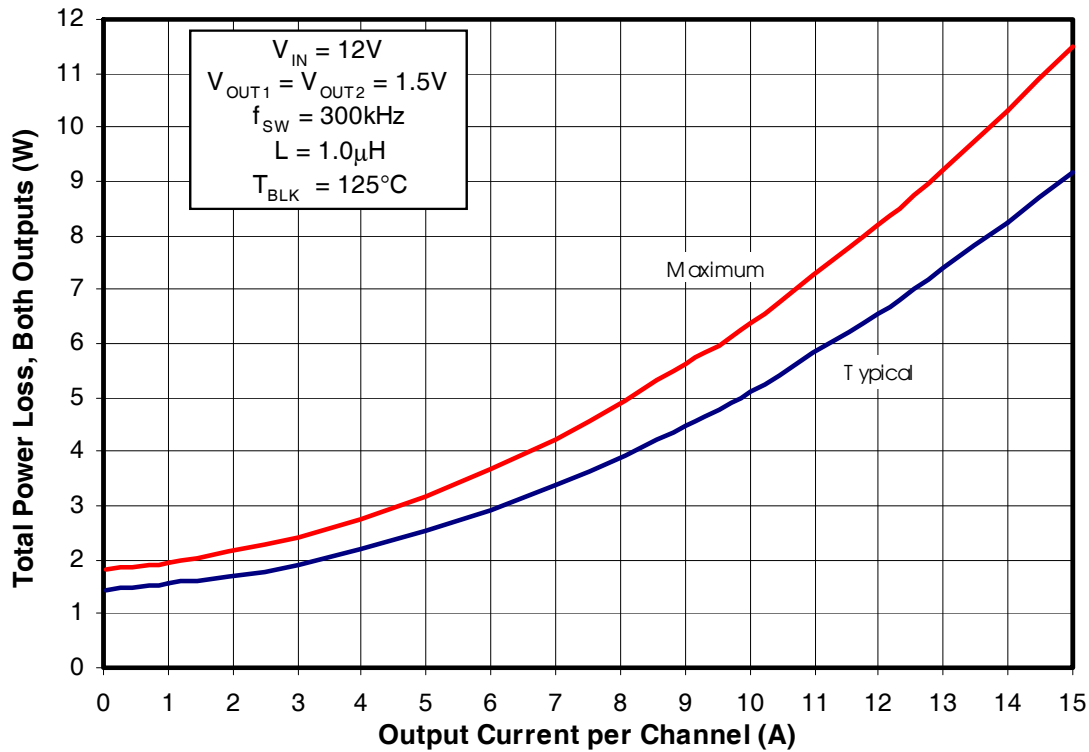
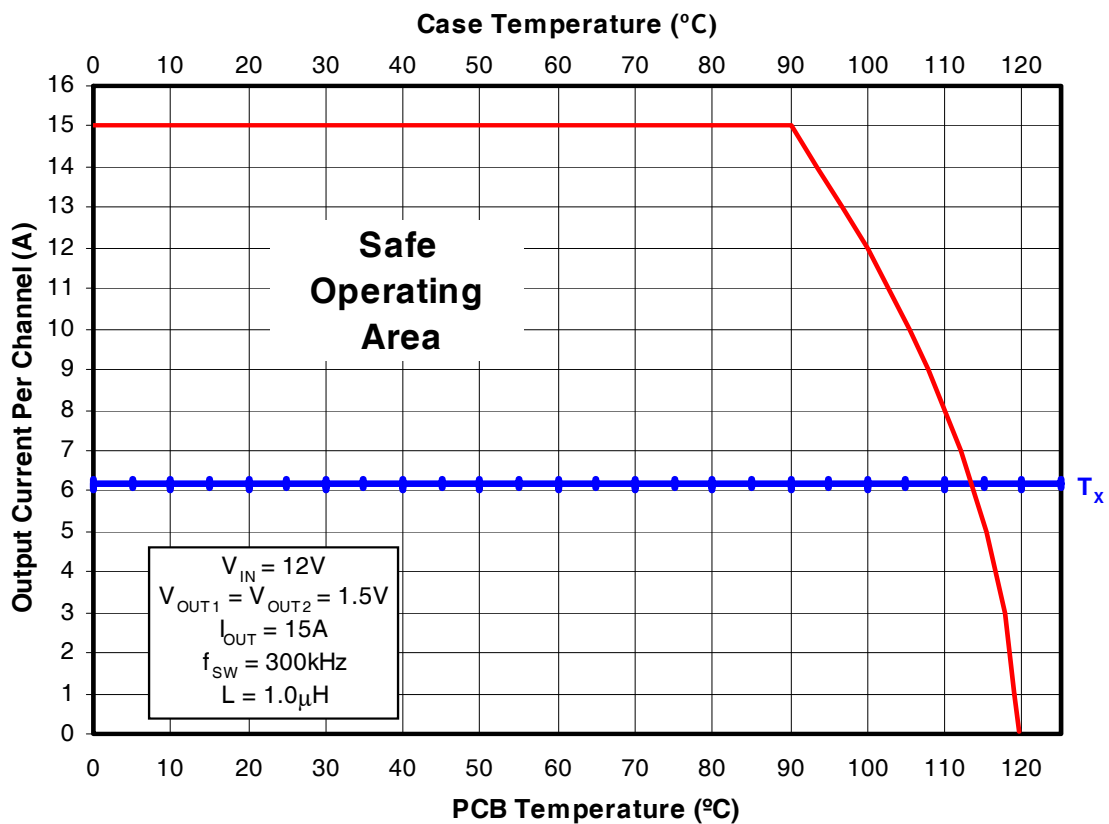
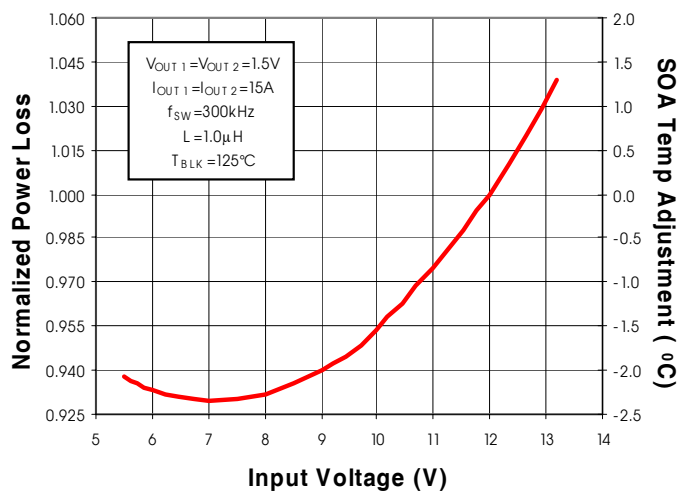

Fig. 2: Power Loss vs. Current
Fig. 3: Safe Operating Area (SOA) vs. T_{PCB} & T_{CASE}
Fig. 4: Normalized Power Loss vs. V_{IN}
To make adjustments to the power loss curves in Fig. 2, multiply the normalized value obtained from the curves in Figs. 4, 5, 6 or 7 by the value indicated on the power loss curve in Fig. 2. Remember that the power loss in Fig. 2. is the power loss for 2 outputs operating with the same output voltage. If differing output voltages are used the initial power loss for each channel needs to be divided by 2. Then if multiple adjustments are required, multiply all of the normalized values together, then multiply that product by the value indicated on the power loss curve in Fig. 2. The resulting product is the final power loss based on all factors. See example no. 1.
To make adjustments to the SOA curve in Fig. 3, determine your maximum PCB Temp & Case Temp at the maximum operating current of each iP1202PbF. Then, add the correction temperature from the normalized curves in Figs. 4, 5, 6 or 7 to the T_x axis intercept (see procedure no. 2 above) in Fig. 3. When multiple adjustments are required, add all of the temperatures together, then add the sum to the T_x axis intercept in Fig. 3. See example no. 2.
- Output1 (Fig. 2) Maximum power loss = $W 8.25/2 = 4.125W$
(Fig. 4) Normalized power loss for input voltage ≈ 0.93
- Output2 (Fig. 2) Maximum power loss = $6.4W / 2 = 3.2W$
- Output1 (Fig. 4) Normalized SOA Temperature for input voltage $\approx -2.3^{\circ}\text{C}$
- Output2 (Fig. 4) Normalized SOA Temperature for input voltage $\approx -2.3^{\circ}\text{C}$